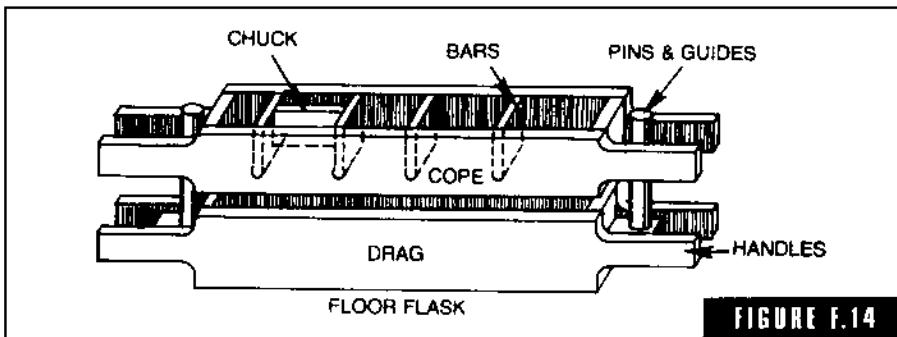

FIGURE F.14
**floor flasks** Flasks that are too large to be handled on the bench (Fig. F-14). These can be of wood or metal. The wood flasks are constructed in such a manner that the long sides provide the lifting handles for two man lifting and handling.